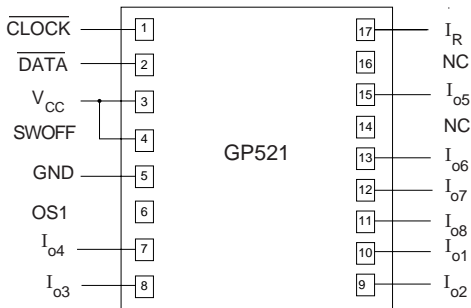

Fig.10 EIGHT OUTPUT CONFIGURATION
**SWOFF** - The logic state of SWOFF determines whether the GP521 operates at 6 or 8 PCS configuration. When SWOFF is high, all eight ( $I_{O1}$  to  $I_{O8}$ ) PCS are available (8 PCS configuration) Figure 10.